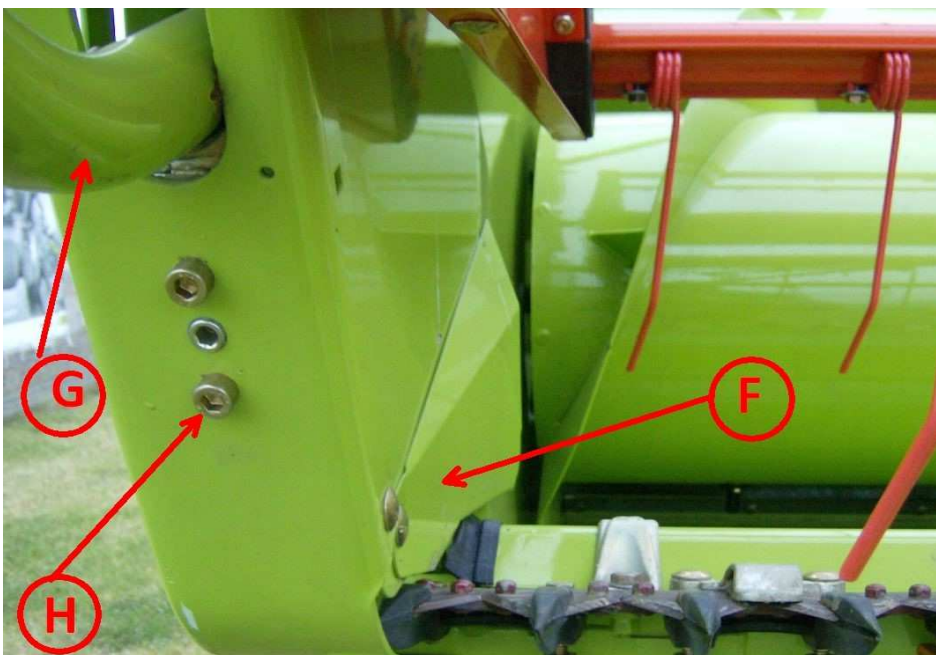

Figure 13
Unscrew the bolts (H) fixing the stalk distributors are secured. (Figure 13)